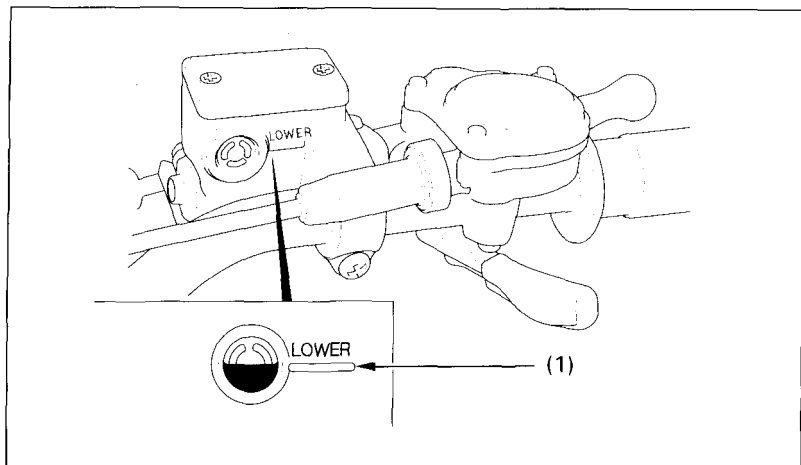

Fig. 4-24
Brake fluid must be added to the reservoir (Fig. 4-24) whenever the fluid level approaches the lower level mark (1). Use only DOT3 or 4 brake fluid and have it added by an authorized Honda dealer.